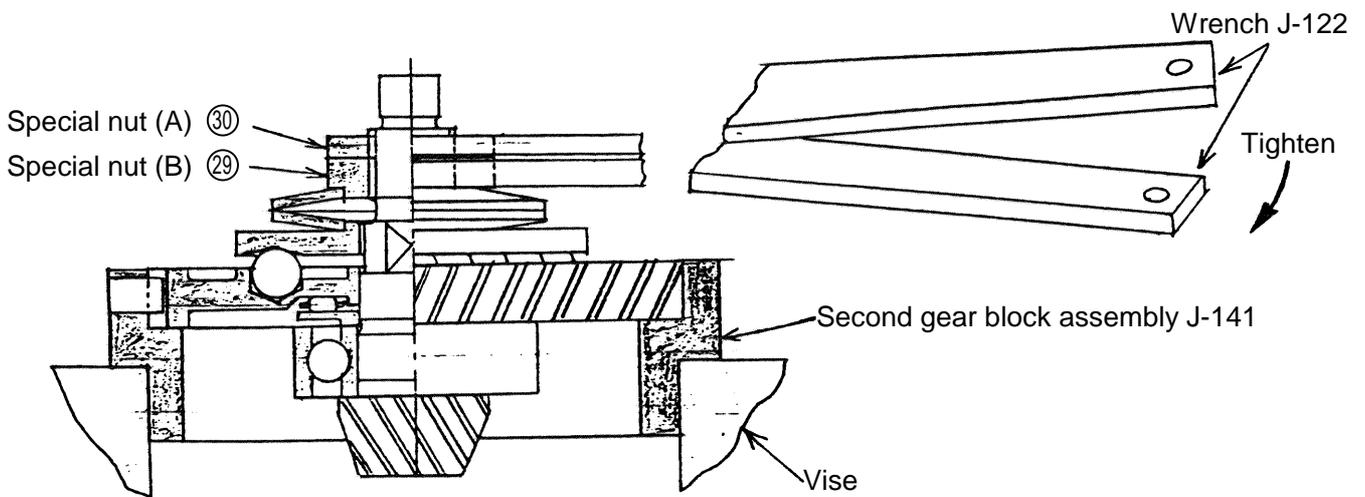

Fig. 12
Press the ball bearing ②② into the third pinion ①⑨. Insert the thrust washer ②③, needle bearing ①②⑤ and second gear ②④. Put 12 steel balls ②⑤ into the steel ball hole of the second gear ②④. Fasten the clutch plate ②⑦, two Belleville springs ②⑧ and special nuts (A), (B) ③⑩, ③⑨ and hold them with the second gear block assembly (J-141) secured with the vise. Fasten the special nut (B) ②⑨ lightly with the wrench (J-122). (Fig. 12)
Adjust the torque by increasing or decreasing the tightening torque of the special nut (B) ②⑨ so that the torque is 1.8 - 2.1 kg. m (156 - 182 lb-in). After adjustment, set the mechanism as shown in Fig. 12, fasten the special nut (B) ②⑨ with one wrench (J-122) and tighten the special nut (A) ③⑩ with the other wrench (J-122) to a torque of 1.5 kg. m (130 lb-in).